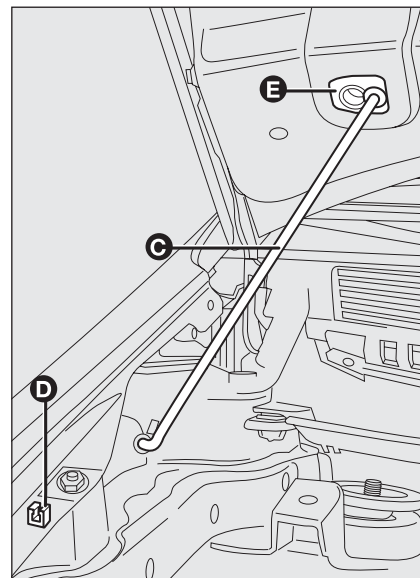

fig. 124
- ☐ lift the bonnet and at the same time release the rod **C**-fig. 124 from the clip **D**, then insert the rod end in its housing **E** on the bonnet.
- ☐ hold the bonnet up with one hand and with the other remove rod **C**-fig. 124 from recess **D** and replace it in its locking device **E**;